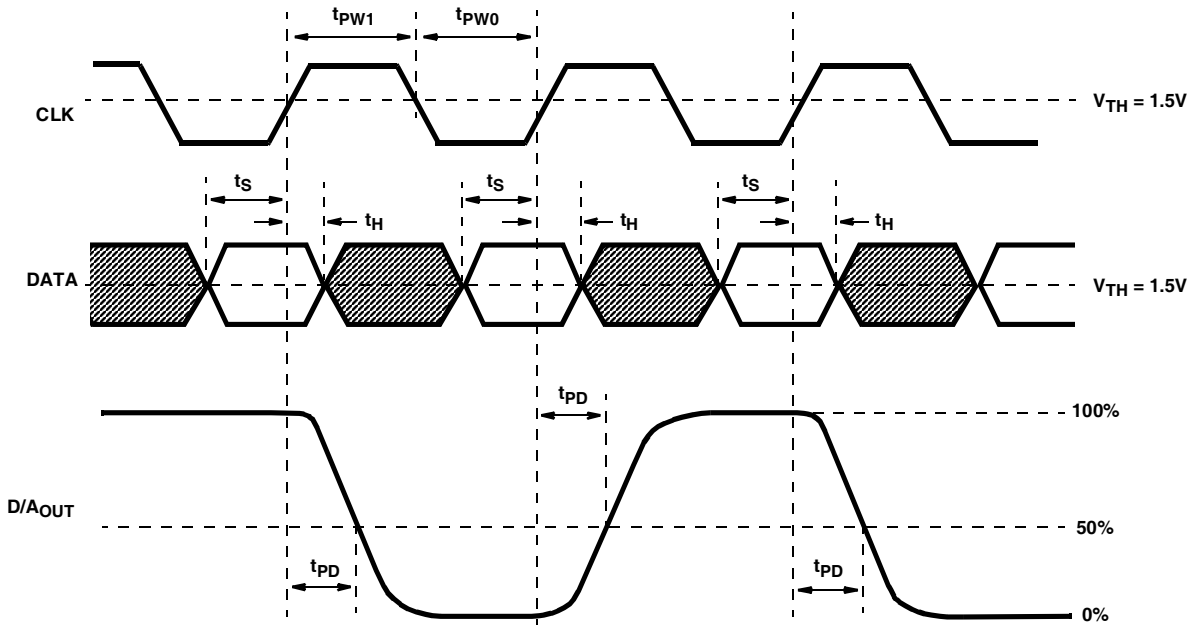

FIGURE 6.
- See Figure 6 in the Timing Diagram.
To make the best use of the inherent characteristics of this D/A converter the phase relation between the data and clock applied from the exterior, should be properly set. Set up time ( $t_S$ ) and Hold time ( $t_H$ ) should be as indicated in the Electrical Specifications. For  $t_S$  and  $t_H$  refer to Figure 6 in the Timing Waveform. Also, set the clock pulse width according to the Recommended Operating Conditions.